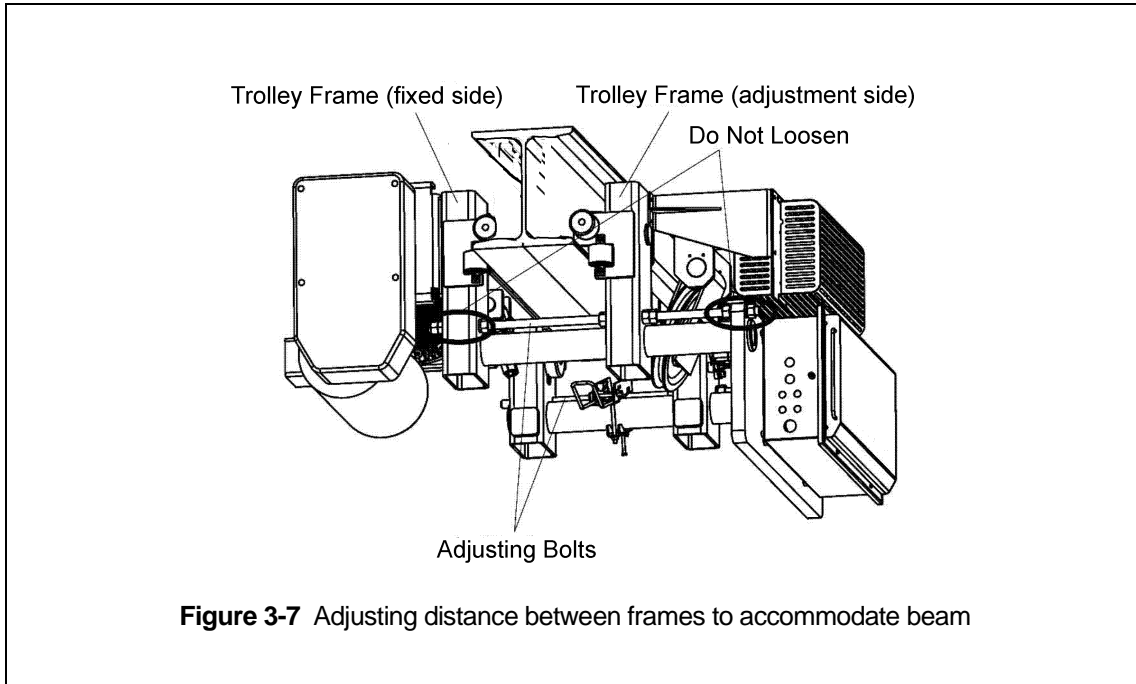
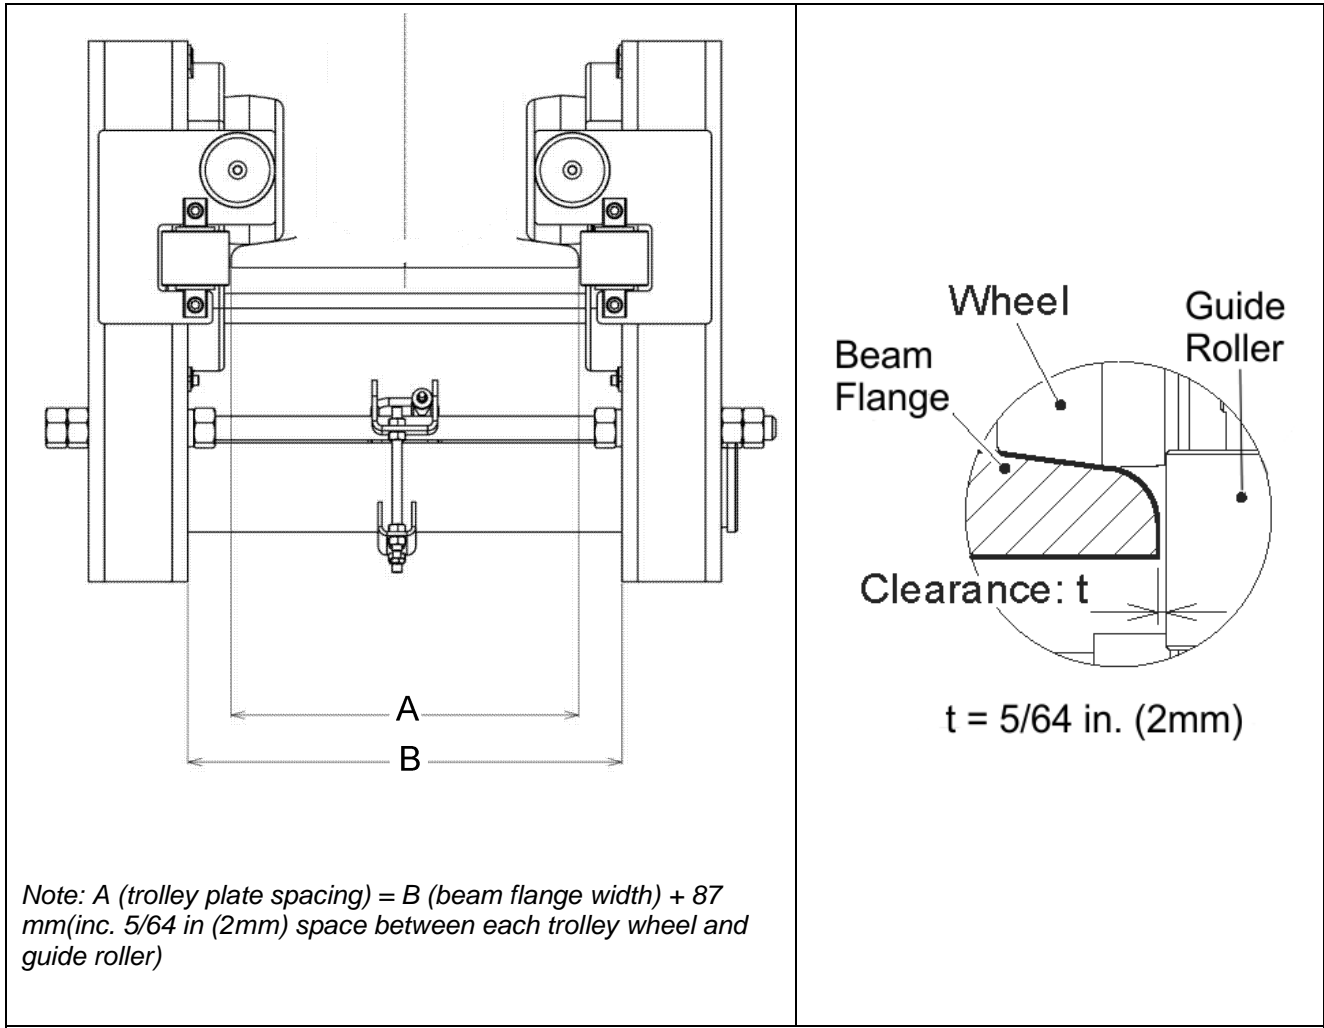

Figure 3-7 Adjusting distance between frames to accommodate beam
Figure 3-10 Trolley Flange Adjustment Example
- 3) **⚠ CAUTION** Only move/adjust the Trolley Frame “adjustment side” (side with trolley motor) of the trolley. The “adjustment side” is easily identifiable as the trolley motor is bolted to it. Never loosen the Adjusting Bolt Nuts on the “fixed side” or attempt to move the “fixed side” of the Trolley Frame. See **Figure 3-7** for Trolley Frame identification. “Adjustment side” (trolley motor) side is shown in **Figure 3-7** and **Figure 3-8**.
- 4) Before attempting to install the trolley hoist, verify beam width, “B” and the “A” dimension as shown in **Figure 3-10**. Adjust flange width if necessary.
- 5) To widen the flange width: Loosen the adjusting nut on the outer side of the trolley frame (adjustment side) and tighten the nut on the inner side of the trolley frame (adjustment side) shown in **Figures 3-8**. This must be performed uniformly on both Adjusting Bolt locations on each end of the hoist as shown in **Figures 3-7**. Confirm dimension "A" as referenced in **Figure 3-10**.
To narrow the flange width: Loosen the adjusting nut on the inner side of the trolley frame (adjustment side) and tighten the nut on the outer side of the trolley frame (adjustment side) shown in **Figures 3-8**. This must be performed uniformly on both Adjusting Bolt locations on each end of the hoist as shown in **Figures 3-7**. Confirm dimension "A" as referenced in **Figure 3-10**.
- 6) If the end of the runway beam is accessible, slide the trolley hoist onto the end of the runway beam. Check the Trolley Wheel to Guide Roller clearance, "t". "t" = 5/64 inch (2 mm) as shown in **Figure 3-10**. Adjust the Trolley Frame as necessary to meet the Trolley Wheel to Guide Roller clearance, "t". (See **Section 3.4.1 Step 5** for proper adjustment procedure).
- 8) Once the hoist is in position with the beam flange wheel running surface, the trolley flange can be made narrowed to accommodate the respective beam flange width. Confirm dimension "t" = 5/64 inch (2 mm) as shown in Figure 3-10. (See Section 3.4.1 Step 5 for proper procedure to widen flange width. Figures 3-8, 3-9 and 3-10)